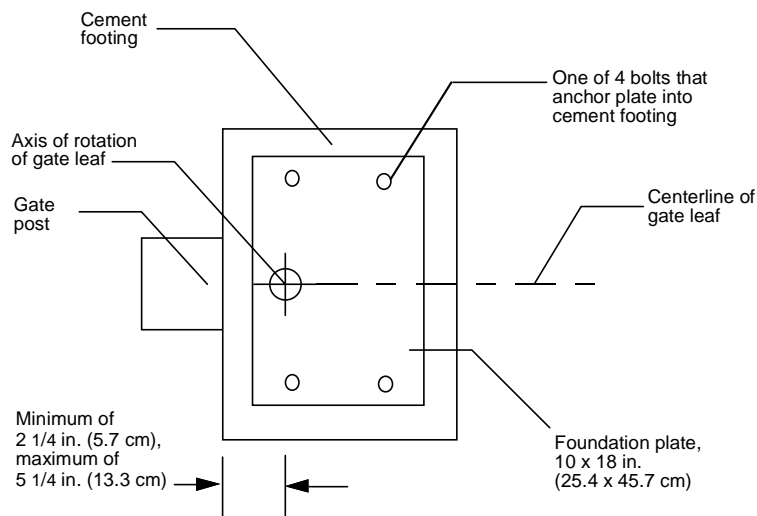

Figure 3. Recommended dimensions for the concrete footing and foundation plate, top view
3. Make sure the gate leaf has positive stops in both the opening and closing directions (see Figure 3).
You need to lay out the concrete forms according to the dimensions shown in Figures 3 and 4. (Your soil conditions will also determine the size of the cement footing.)
Note: The foundation plate may be supplied by the installer. If so, it must meet the specifications shown in Figure 3.